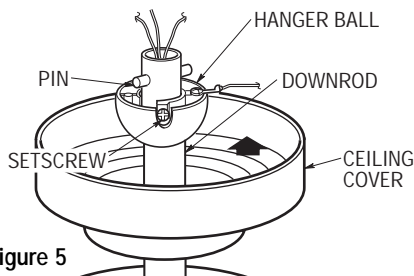

Figure 5
- 5. Reinstall the hanger ball (Figure 5) on the downrod as follows. Route the three 80" motor leads through the hanger ball and slide the hanger ball over the downrod. Position the pin through the two holes in the downrod and align the hanger ball so the pin is captured in the groove in the top of the hanger ball. Pull the hanger ball up tight against the pin and securely tighten the setscrew in the hanger ball. A loose setscrew could create fan wobble.